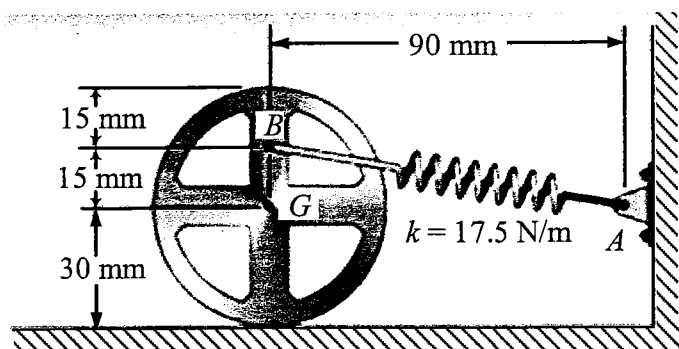

Fig. 4
- (4) (Please see Fig. 4) The $m = 20 \text{ kg}$ wheel has a radius of gyration of $r = 20 \text{ mm}$. If it rolls without slipping, try to use "Conservation of Energy" to determine its angular velocity ω when it has rotated clockwise $\theta = 90^\circ$ from rest at the position shown. The spring has a stiffness of $k = 17.5 \text{ N/m}$ and an unstretched length of $L_0 = 15 \text{ mm}$. (a) Determine the kinetic and potential energies of the system at rest. (5%); (b) Express the kinetic and potential energies of the system when the wheel has rotated clockwise $\theta = 90^\circ$ from rest. (15%); and (c) Determine the angular velocity ω . (5%)